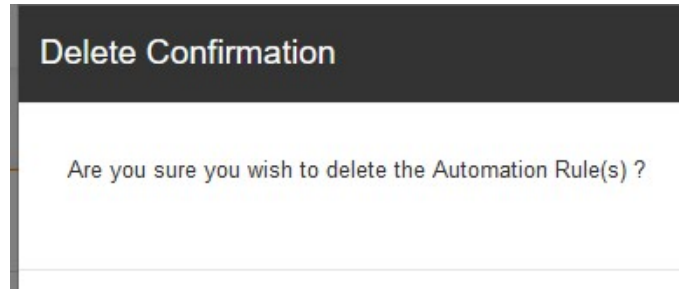

Figure 16-28 Delete Confirmation dialog box
1. On the **Automation Rules** page, click  in the row of the automation rule to be deleted. In the pop-up shortcut menu, select **Delete**. The page as shown in Figure 16-28 is displayed.